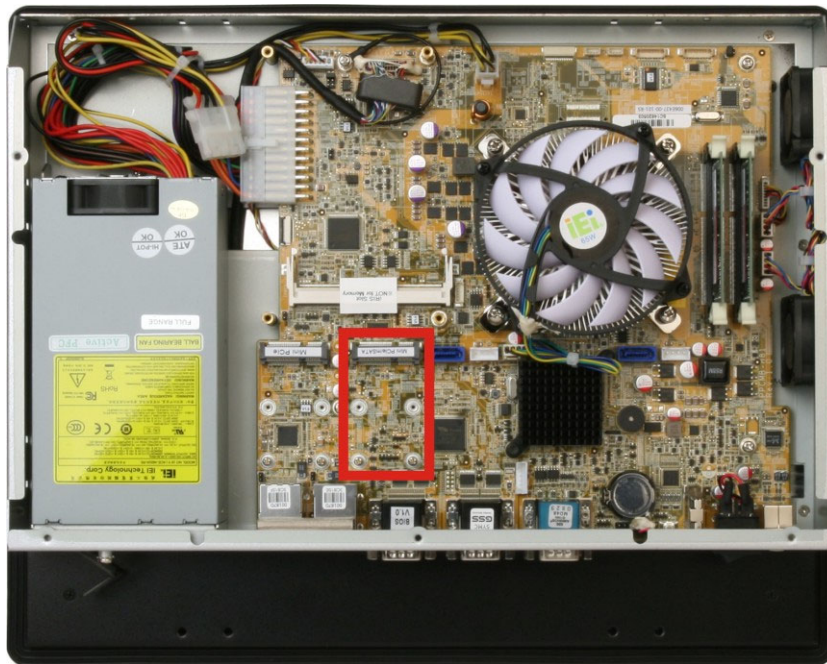

Figure 3-12: PCIe Mini Card Slot which supports mSATA
Step 2: Locate the PCIe Mini card slot which supports mSATA. The location of the PCIe Mini card slot is shown in Figure 3-12.